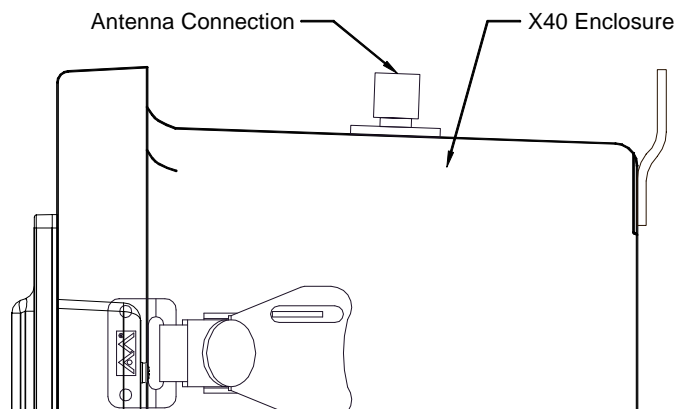

Figure 17 N4X Antenna Connector
9. If the X40-N4X was ordered with the wireless option, the radio module is installed in the enclosure and an antenna connector is provided on the top of the enclosure (Figure 17). Mount the external antenna in an appropriate location with an unobstructed line-of-sight to the wireless devices. Connect the RF cable from the connector on top of the X40 to the antenna.